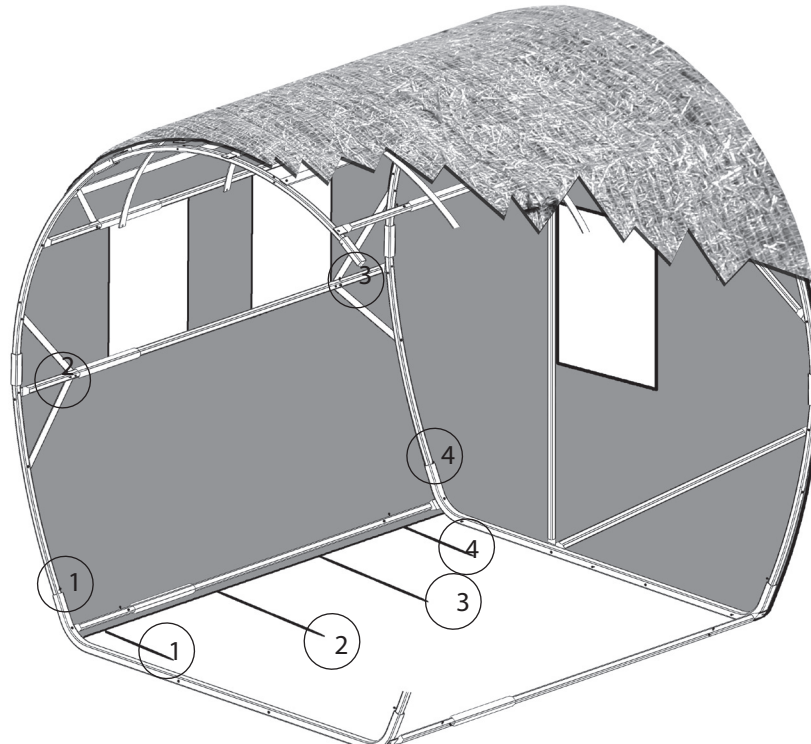

Figure 36.1
STEP 27: With the COVER BLANKET “P” still loosely laying over the bale blind frame, get inside the bale blind frame. The remainder of the assembly process will be performed from the interior of the bale blind. Locate the (4) bungee straps positioned along the bottom of one end of the COVER BLANKET “P”. Attach each bungee strap to it’s corresponding set screw located on the bale blind frame, as illustrated in Figure 36.1.